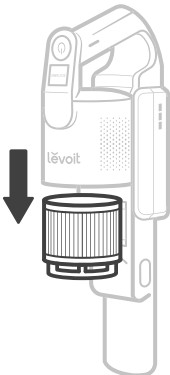

Figure 3.6
2. Pull out the post-motor filter (high-efficiency paper) from the vacuum body. **[Figure 3.6]**